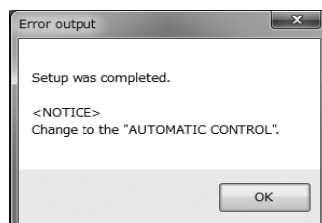

Fig.53
- ⑥ Click "OK" to change the settings to the selected values, and then click the "OK" button in the displayed message box (Fig. 53) to complete the setting process.